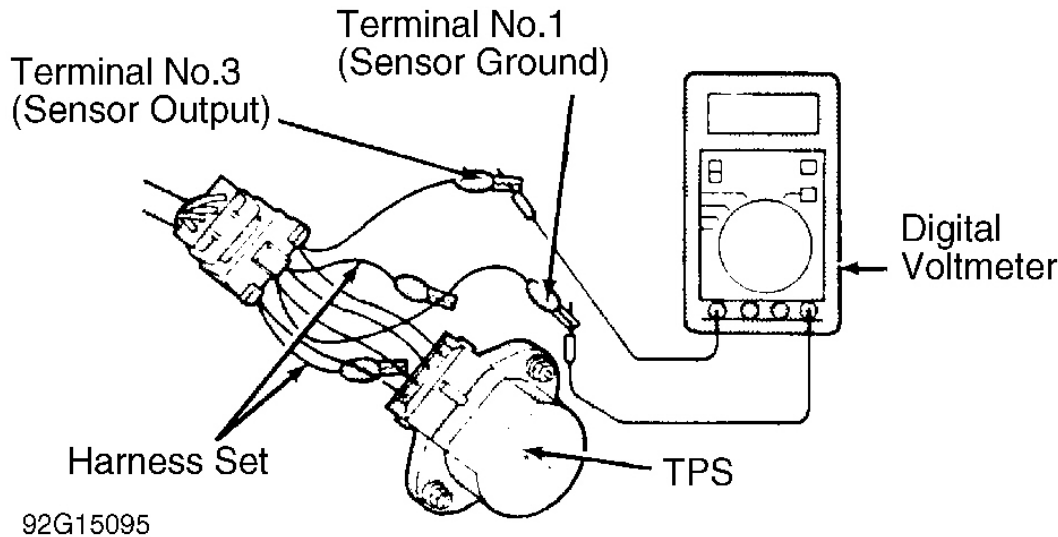

Fig. 15: Connecting Digital Voltmeter & Harness Set at TPS
4. Tighten TPS retaining screws to specification. Refer to the **TORQUE SPECIFICATIONS** table at end of article. Install Harness Set (MD991348) between TPS electrical connector and TPS. See **Fig. 15**. Connect digital voltmeter between terminals No. 1 (sensor ground) and No. 3 (sensor output). See **Fig. 15**.